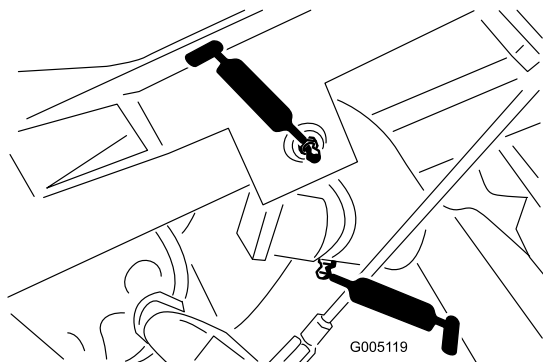

Figure 30
- Lift-arm pivot (3) and pivot hinge (3) (Figure 30)